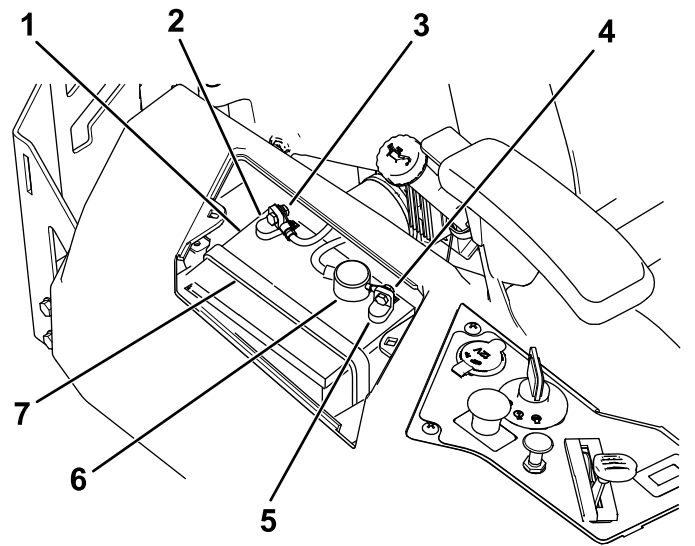

Figure 45
4. Disconnect the negative (black) ground cable from the battery post (Figure 45).
6. Disconnect the positive (red) cable from the battery post (Figure 45).
7. Remove the battery hold-down (Figure 45) and lift the battery from the battery tray.
1. Position the battery in the tray (Figure 45).
5. Secure the battery with the hold-down (Figure 45).